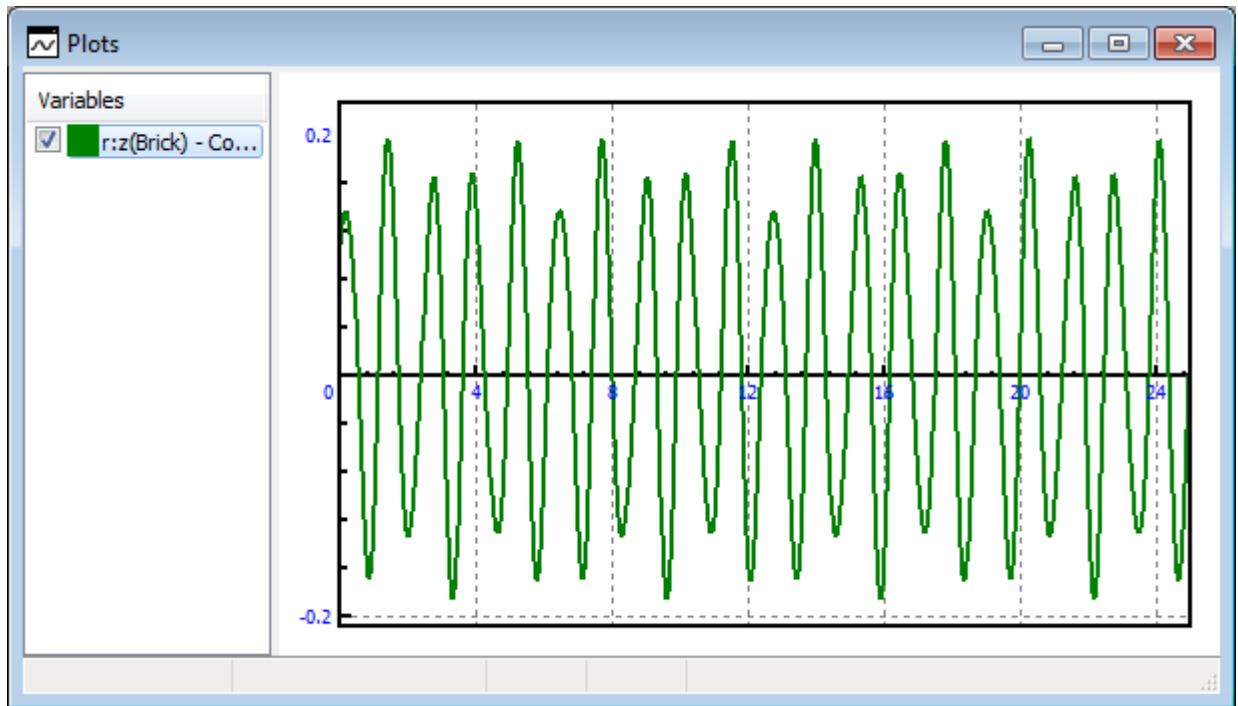

Figure 2.25. Forced oscillation ( $\omega = 8$  rad/s)
4. Run integration. Now you can see that the body **Top** also moves. The time history of the vertical position of the **Brick** is given in the Figure 2.25.